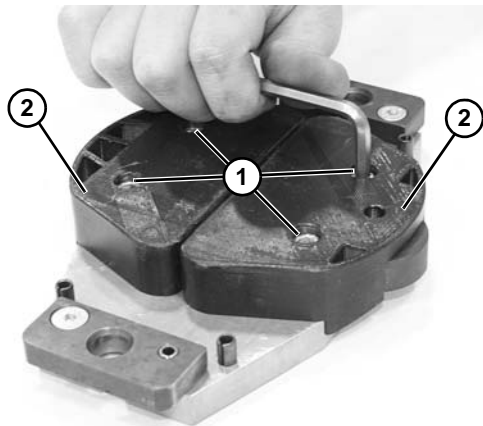

Figure 57
2. Remove four socket head screws (**Figure 57, item 1**) and remove pucks (**Figure 57, item 2**).